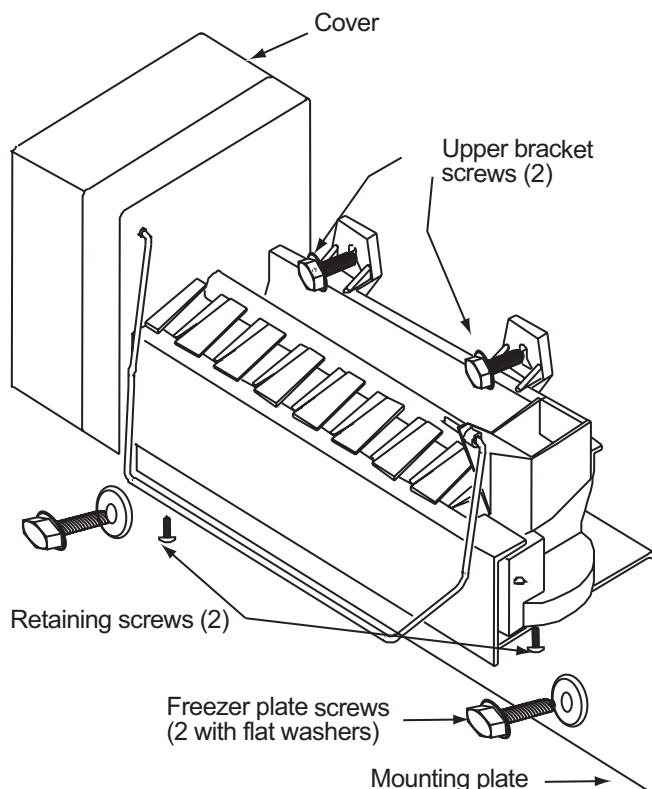

Figure 50. Ice maker screw locations
4. Unfasten two retaining screws to detach the ice maker from mounting plate. See Figure 50. Save screws.
1. Remove the two screws holding the ice maker to the mounting plate. See figure 50, page 53.